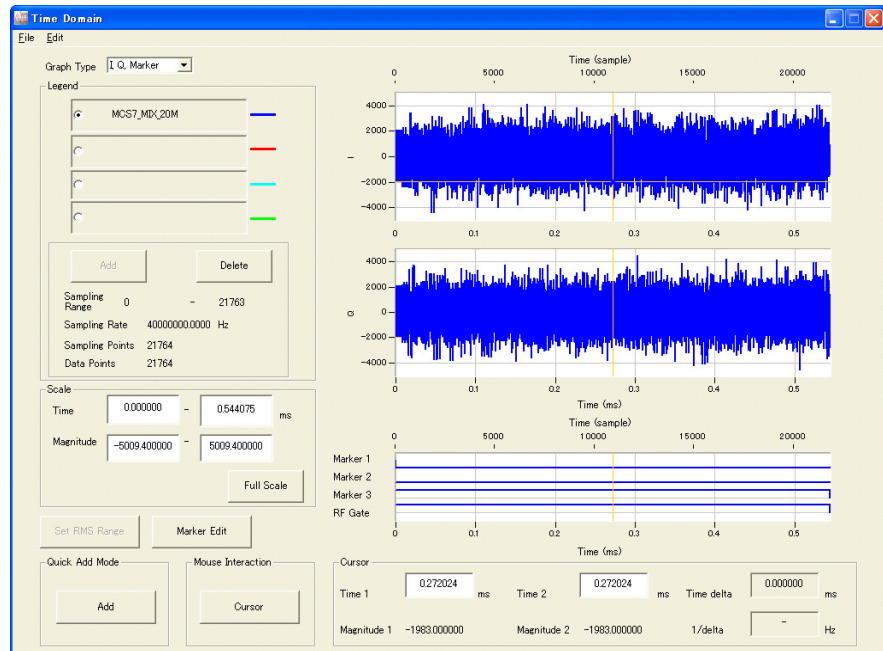

Figure 3.5-5 Time Domain screen
2. When **Time Domain** is clicked in the **Simulation** menu or  is clicked, the Time Domain graph screen shown in Figure 3.5-5 is displayed, along with a trace of the generated waveform pattern.